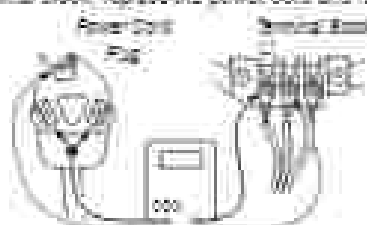

Figure 3a - Plug-to-terminal connections for electric dryer.
3. With an ohmmeter, check for continuity between the neutral (N) terminal of the plug and the center contact on the terminal block. See figure 3a.
4. In a similar way, check which terminal of the plug is connected to the left-most contact on the terminal block and make a note of it. This will be L1 (black wire) in the wiring diagram. See figure 3a.
7. Check for continuity between the neutral (N) terminal of the plug and J1-4 (white wire) on the ACU.
8. With an Ohmmeter, check which terminal of the plug is connected to the right-most contact on the terminal block and make a note of it. This will be L2 (red wire) in the wiring diagram. See figure 3a.